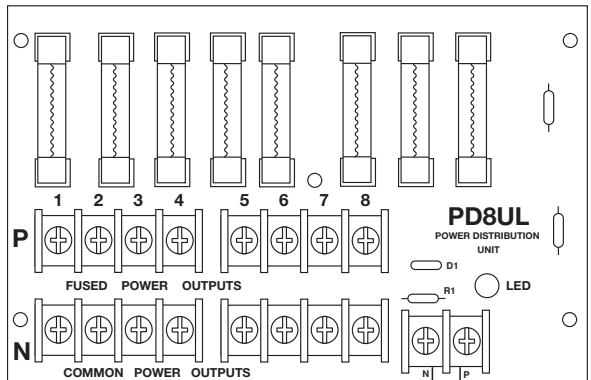

Fig. 1
3. Connect the desired power supply output to the terminals marked [INPUT] (Fig. 1).
Note: Left terminal is NEG. (-) and right terminal is POS. (+) (Fig. 1).